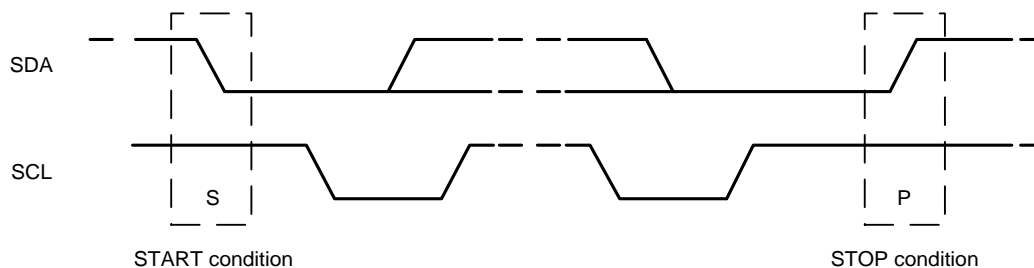

Figure 5: I²C Start and Stop Conditions
Communication on the I²C bus starts when the master puts the START condition (S) on the bus, which is defined as a HIGH-to-LOW transition of the SDA line while SCL line is HIGH (see *Figure 5* below). The bus is considered to be busy until the master puts a STOP condition (P) on the bus, which is defined as a LOW to HIGH transition on the SDA line while SCL is HIGH.